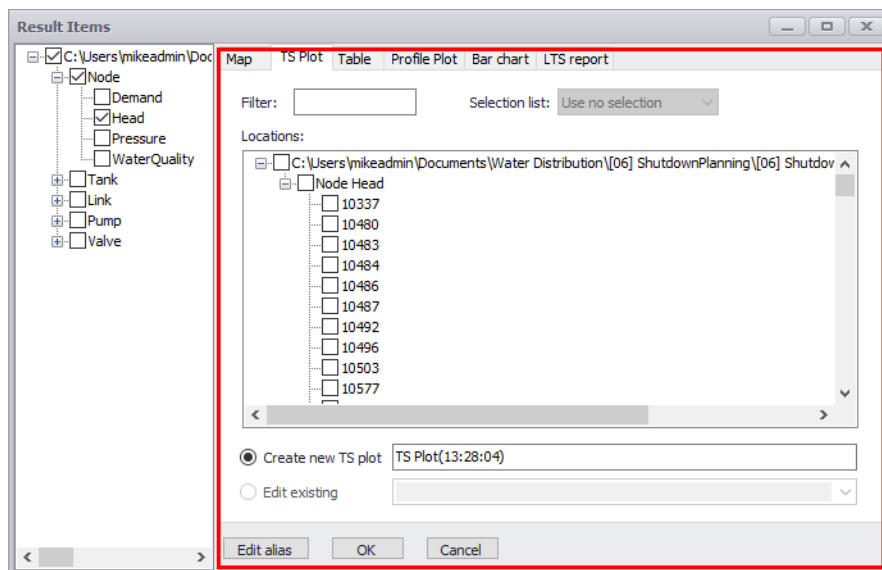

Figure 20.20 The TS Plot tab on the Result Items dialog, showing the full list of result locations
- **Time series plot.** This tool launches the 'Result Items' dialog (Figure 20.20). It is only relevant for 1D result files. In this dialog: